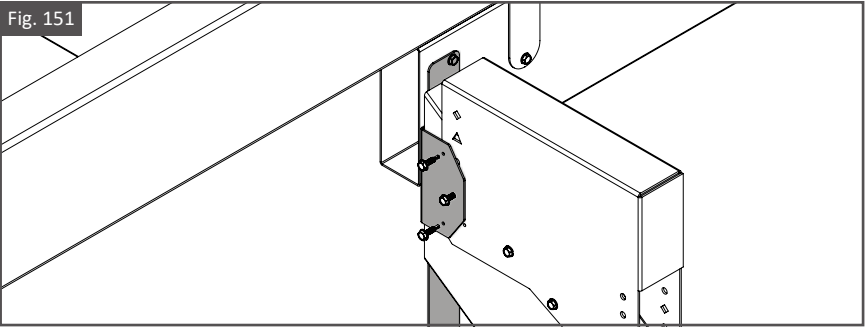

Fig. 152
- Using a Rubber Mallet, fold tails of Stair Straps onto bottom face of Stair Stringer assemblies. As shown in Fig. 152.